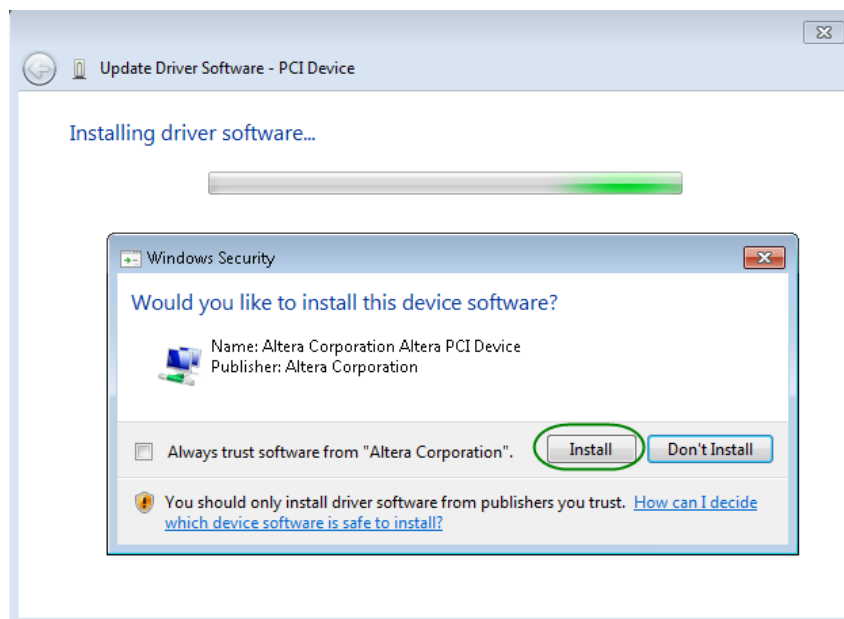

Figure 7-7 Click Install in the dialog of Windows Security
10. When the Windows Security dialog appears, as shown in **Figure 7-7**, click the **Install** button.